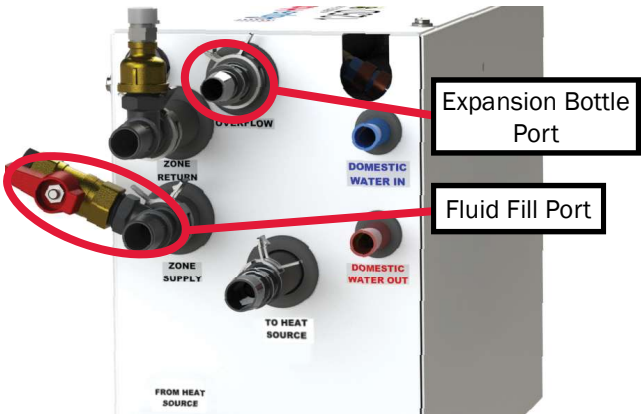

Figure 87
- 4. Locate the fluid fill port (shown in Figure 87).